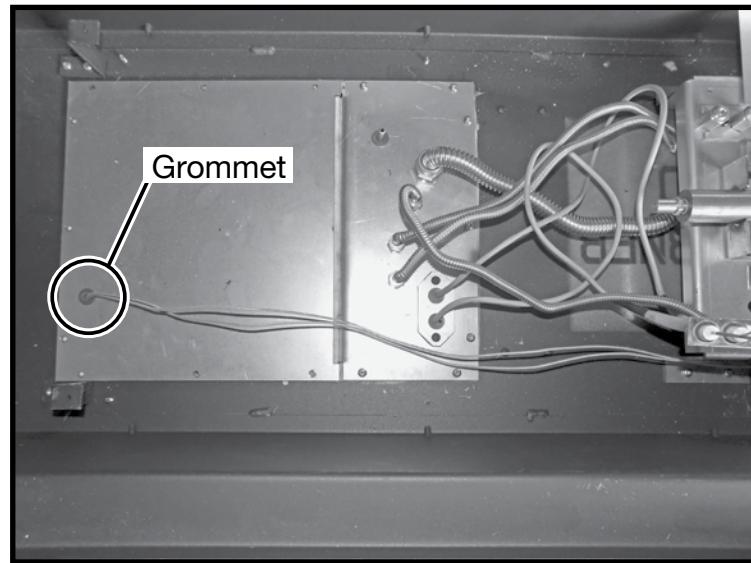

Figure 28: Wires through grommet.
2. Remove large cover panel. If this fireplace has lighting built in to the secondary floor, it will be necessary to disconnect the lighting wires from the electrical connection compartment in front of the control box in order to withdraw the lighting wires through the grommet (Figure 28). Make sure that the power is turned off at the breaker box.